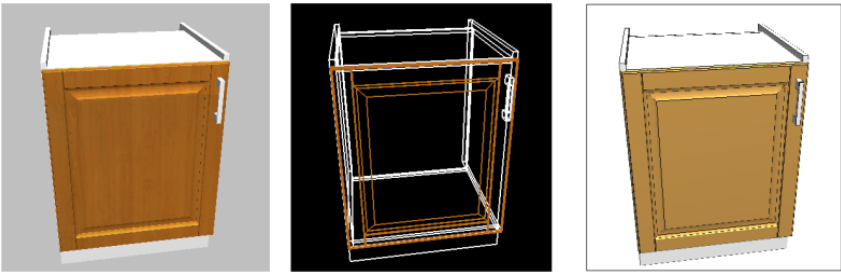

Fig. 202 – various ways of displaying the model
-    **Shaded model with textures, Grid model, Grid model with shading** – determine the way the model is displayed (Fig. 202);
-    **Background** – changes the background colour to black, grey or white (Fig. 202);